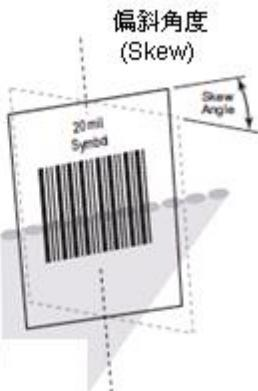

Fig. 1-14
- ✧ Skew:  $\pm 75^\circ$ ,  $0^\circ$  Roll and  $0^\circ$  Pitch (Fig. 1-14)